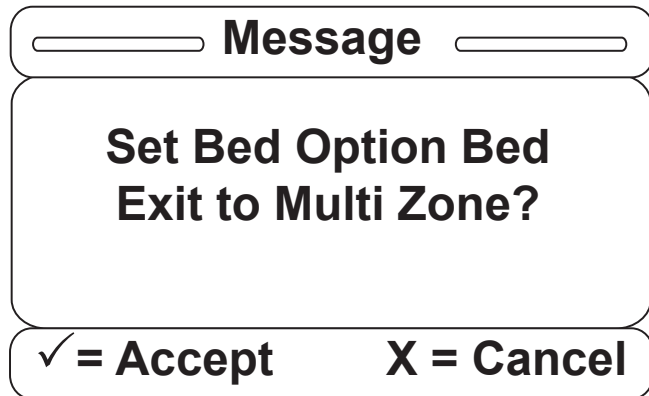

Figure S-13
13. After Multi Zone has been selected, a confirmation screen will be displayed as shown in Figure S-13. Figure S-13 assumes you selected Multi Zone. If you previously selected Single Zone then the confirmation screen would read “Set Bed Option Bed Exit to Single Zone. Confirm you want to Set Bed Option Bed Exit to Multi Zone by pressing “Enter” on the footboard panel. If needed, press “Exit” to cancel the operation.